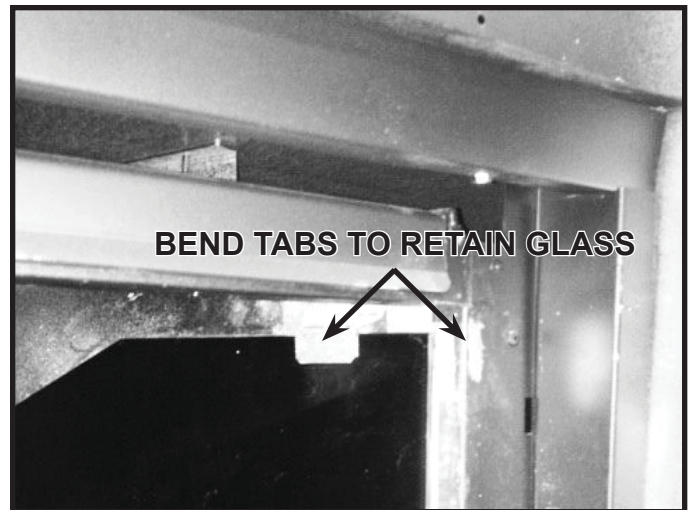

Figure 11.15 Right Refractory Tab
9. Slide right glass panel into appliance until it contacts the rear glass panel. Bend the refractory tabs over to retain the right glass panel. See Figure 11.15.